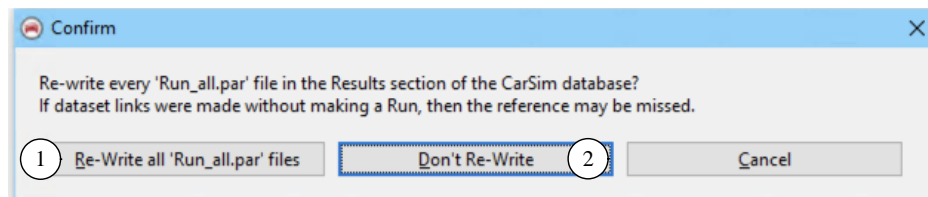

Figure 12. Confirm the search.
3. You will be prompted to confirm the search (Figure 12). In most cases, click the **Don't Re-Write** button ② (the simpler and faster option). However, if you have been making other changes in the database, it's not a bad idea to click the **Re-Write all 'Run_all.par' files** button ①.